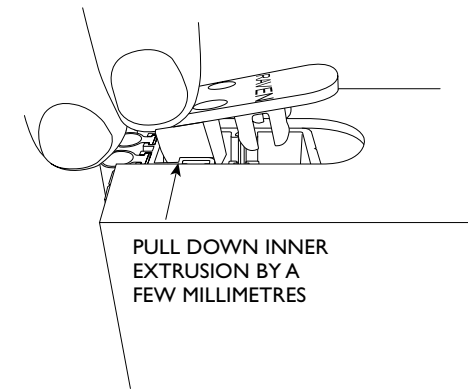

FIG.5
- STEP 9** For soft timber jambs, position striker button where adjustment block meets door jamb. (FIG.5)